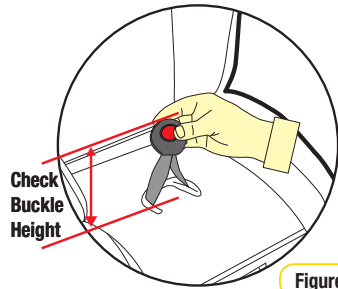

Figure 1
- Step 1:** Lift the buckle to see how much height you need (Refer Figure 1)